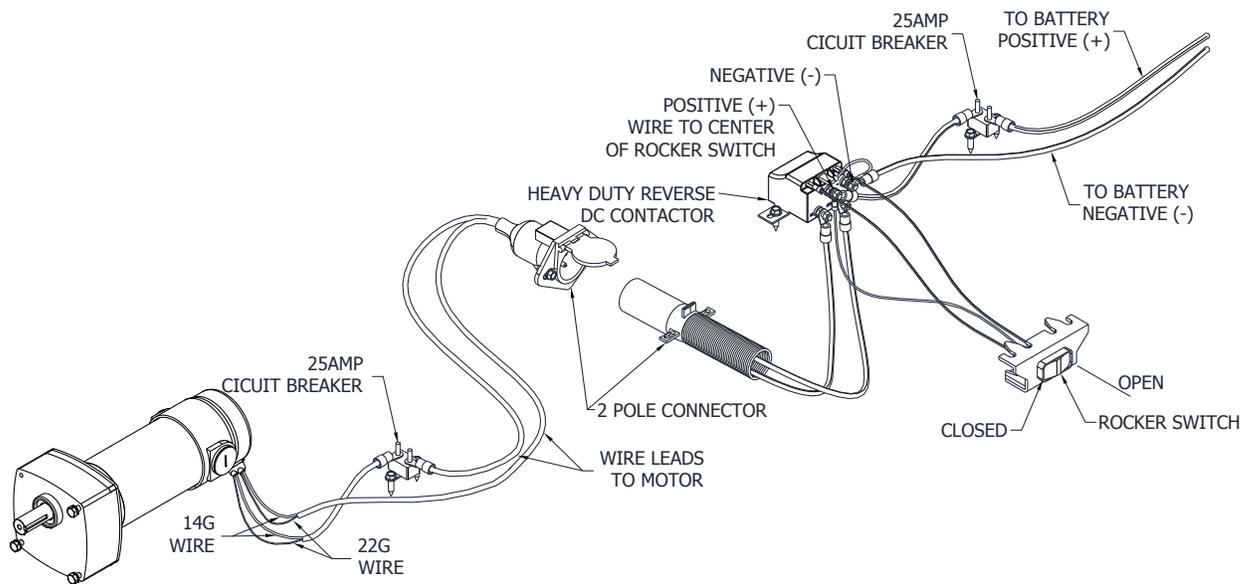

Figure 22
(See Figure 22)
25amp circuit breaker in line with one of the #6 wires at the motor. Run the wire down the front of the gravel trailer and along the box frame to the rear pivot point of the trailer. Fasten the wire with the 3/4" wire clips and 1/4" lag screws provided. Space the wire clips at approximately 3ft apart. From the pivot point run the wire along the trailer frame to the front of the trailer. Fasten the female 2 pole connector (W) to the front of the frame (see Figure 22). Attach the #6 double strand wire to the female connector. Note: Fasten the #6 double strand wire in obstruction free areas or else the wire will be severed when the hoist is raised. Mount the solenoid on the truck frame near the batteries / cab. Run #6 double strand wires from the solenoid along the truck frame to the 2 pole male connector at the back of the truck. Connect the motor wires to the "IN" & "OUT" on the solenoid. Install a black rubber boot on each wire. If not on a trailer, the #6 double strand wire would run straight from the motor to the solenoid. Run #6 double strand wire from the solenoid to the battery. Connect the positive red wire to the "+" post on the solenoid alone with a red rubber boot and connect the negative wire to the "-" post with a black rubber boot. Install a 25amp circuit breaker in line with the positive wire. Mount the rocker switch in an obstruction free area in your cab. Run the 14-3 wire from the switch to the solenoids. You may have to switch the two outside wires on the switch if the tarp is running backwards.